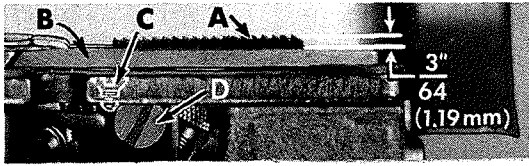

Fig. 9
Set the feed dog (A, Fig. 9) in the throat plate (B) so there is equal clearance on all sides. See that the tips of the teeth extend the depth of a tooth or approximately $\frac{3}{64}$ inch (1.19 mm) above the throat plate and are parallel with the throat plate at high point of travel. Adjust the support screw (C), under the feed dog, to maintain this setting. Screw (D) is used to hold feed dog in position.